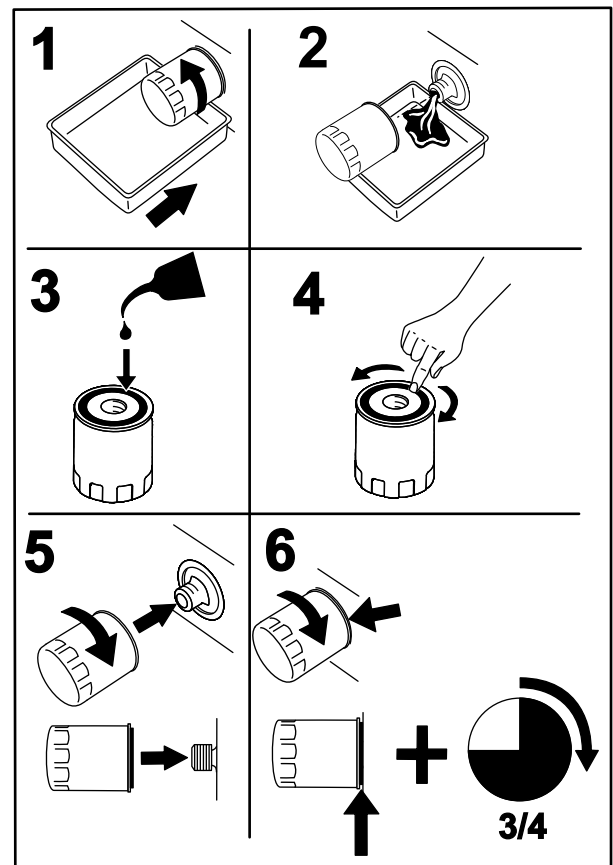

Figure 40
2. Change the engine oil filter (Figure 40).